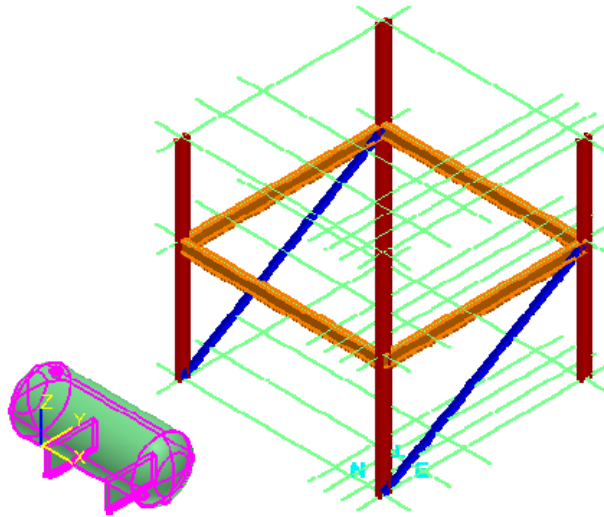

Figure 21: Placed and Selected Equipment
11. Click in the graphic view to place the equipment. Your view should resemble Figure 21.